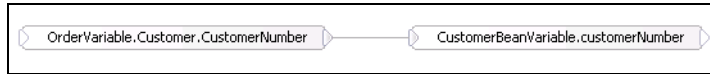

Figure 16-23 Visual Snippet: Connecting variables
- ▶ Connect `OrderVariable.Customer.CustomerNumber` to `CustomerBeanVariable.customerNumber` (Figure 16-23).